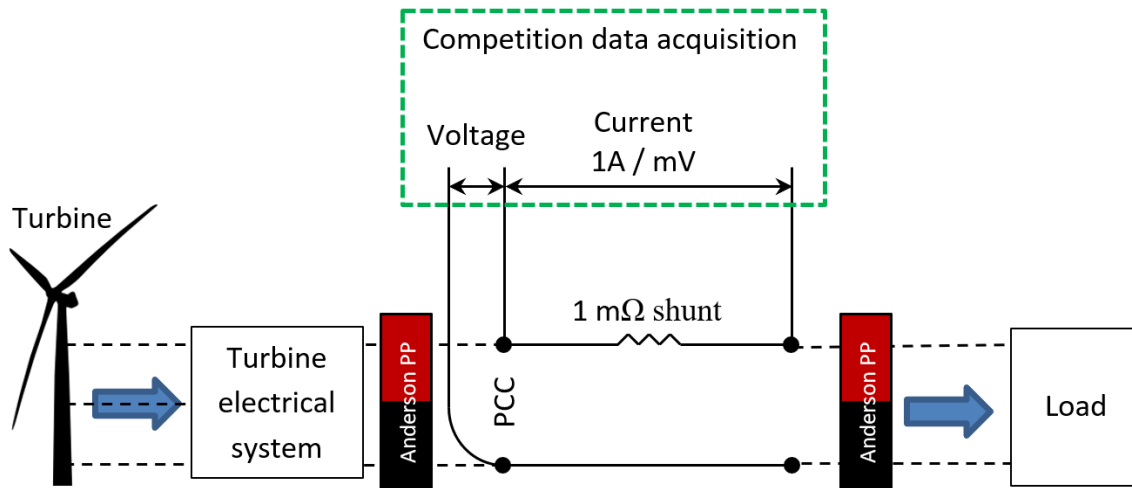

Figure 4. Load, turbine, storage element, and point of common coupling arrangement
Figure 4 illustrates the electrical configuration of the prototype turbine, competition data acquisition system, and point of common coupling (PCC), which is the point of electrical measurement for the competition.
- Voltage must be direct current (DC) at the PCC and is required to be at or below 48 volts (V) at all times.
- The turbine electronics must be in a separate enclosure(s) from the load to clearly differentiate load and control during inspection by judges, as shown in Figure 4. The turbine nacelle may also contain turbine electronics, if desired.